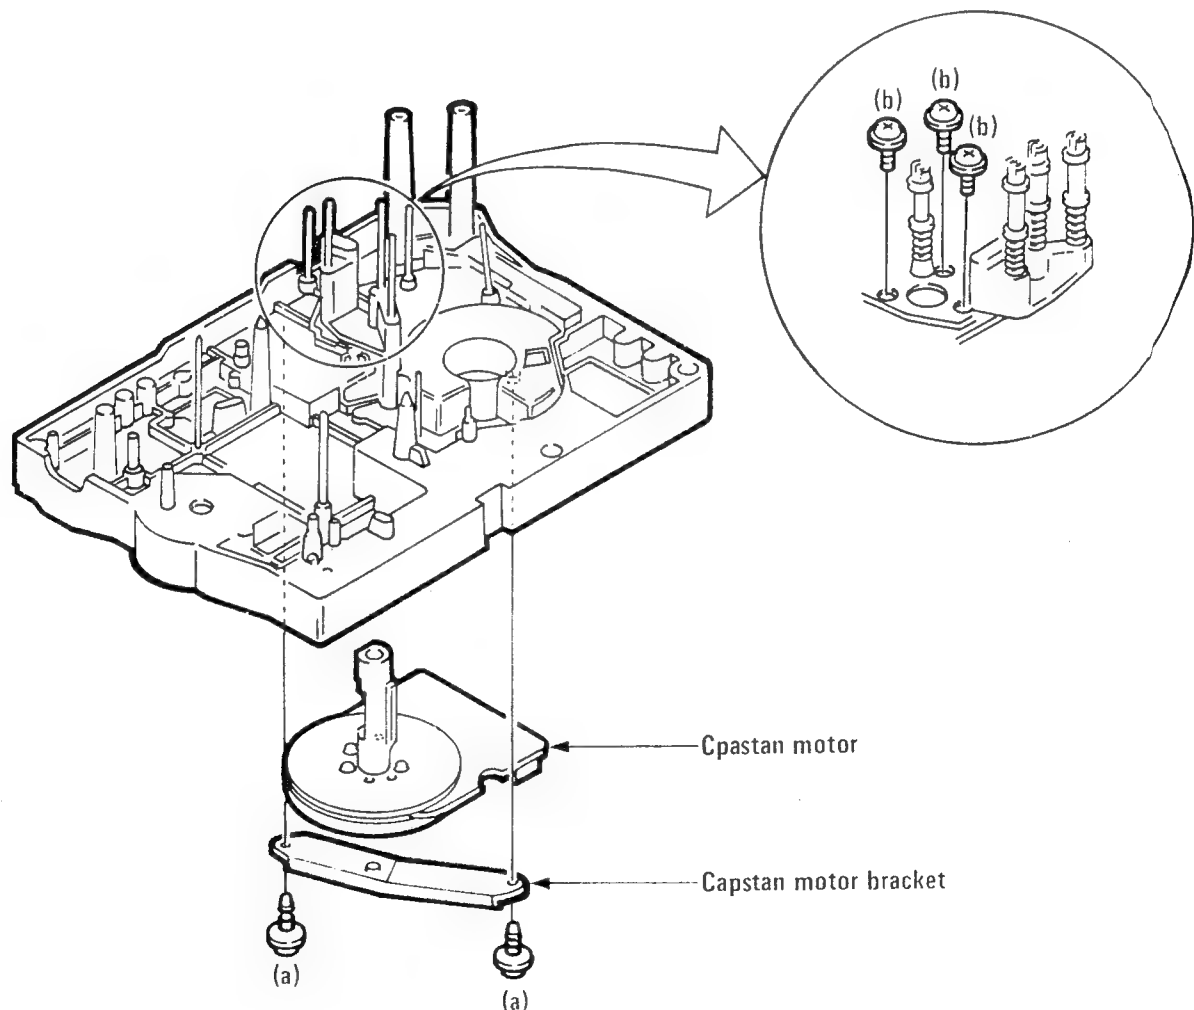

Fig. 4-4-12
12. CAPSTAN MOTOR (See Fig. 4-4-12.)